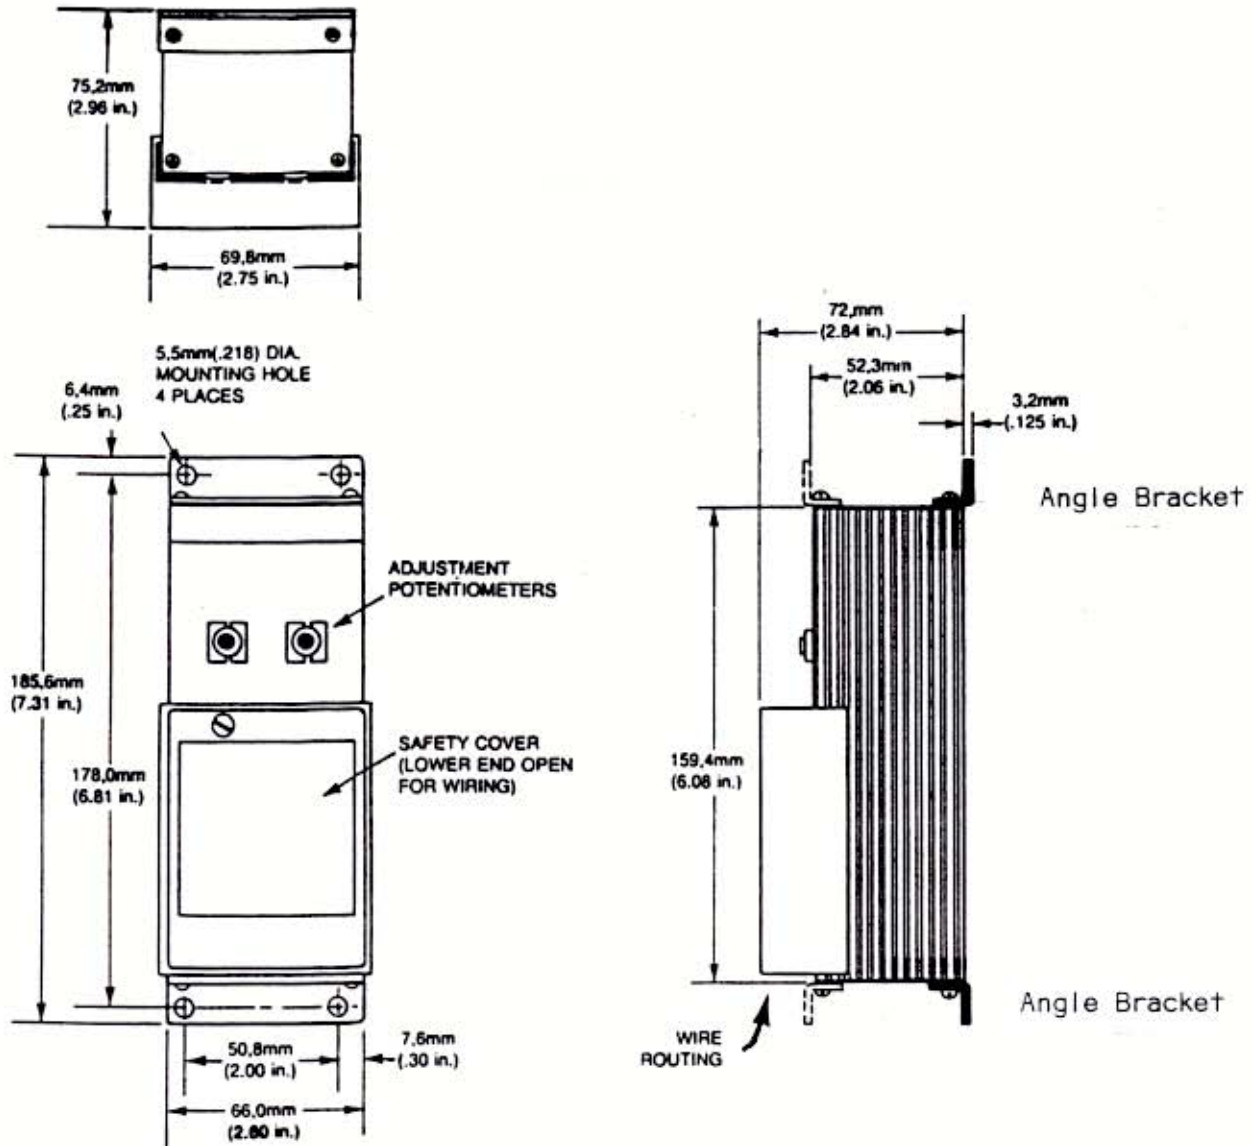

Figure 3 - STD-Standard Housing with Angle Bracket (AB) Mounting
Figure 3 shows another variation of the standard housing, the angle bracket (AB) mounting. Angle brackets are field reversible for either recess mounting or surface mounting. Mounting holes on the brackets are for number 10 screws.